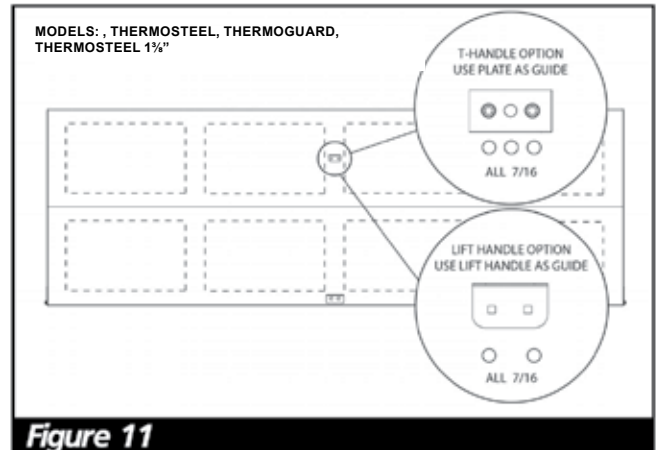

Figure 11
If you have a **ThermoSteel**, **ThermoGuard**, or **ThermoSteel 1³/₈"**, door, use the lift handle as a template to locate holes in proper position. Reference the "Grip Point Compliance" inset (page 10) and Figure 11 (page 13) to assure proper location. Drill two $\frac{7}{16}$ " holes through the door.
If you have a **ThermoSteel**, **ThermoGuard**, or **ThermoSteel 1³/₈"** door, use the back plate, (Fig. 12 a item 8 and Fig. 11) as a template to locate holes in proper position.